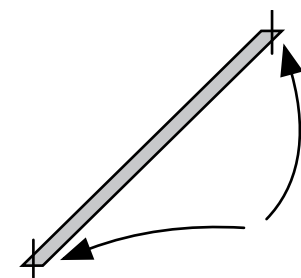

Figure 20
2. Cut off the tips of the ends so they fit into the corners (Figure 20 on the next page).